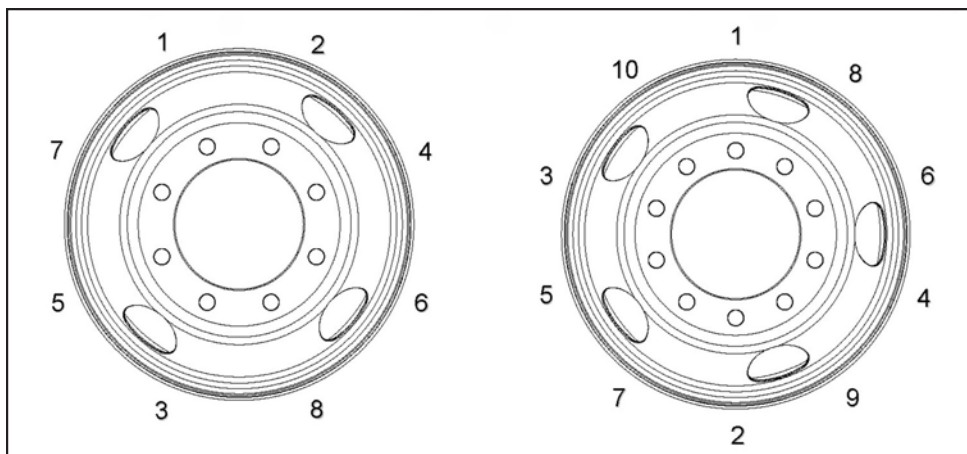

Figure 16. Disc Wheel Installation
4. Tighten nuts fully, using a crossing pattern as shown above in (Figure 16). Be sure to tighten nuts only to the recommended torque. For correct wheel lug nut torque see page 79.